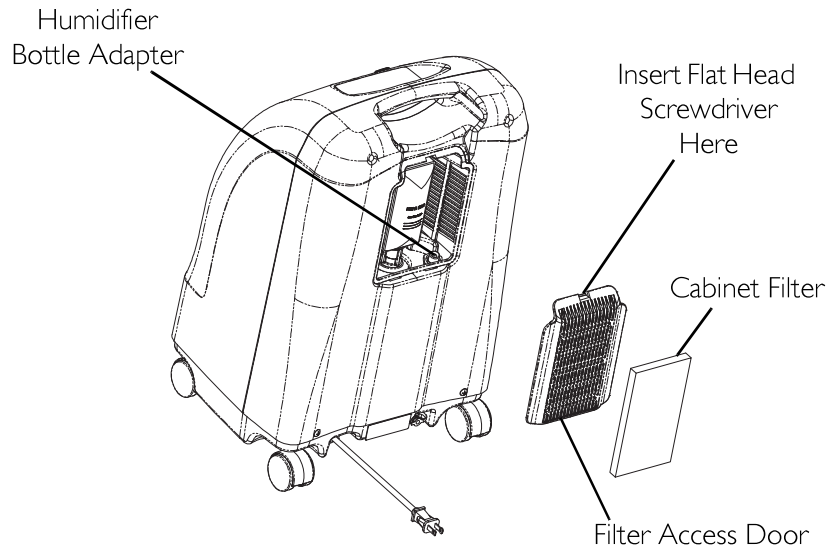
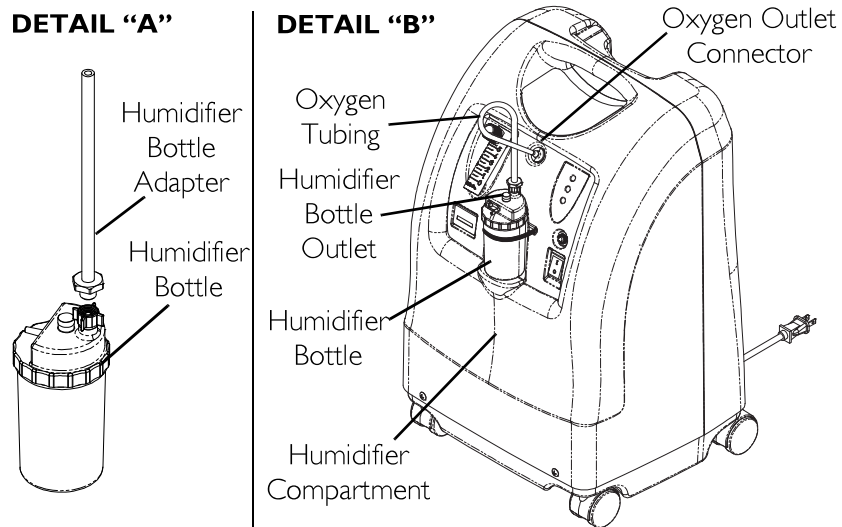

FIGURE 5.2 Humidifer Bottle Adapter
FIGURE 5.3 Humidifier Compartment
NOTE: For this procedure, refer to FIGURE 5.1, FIGURE 5.2 on page 17, FIGURE 5.3 on page 18.
3. Insert a flathead screwdriver in the plate groove on the top edge of the filter access door and gently pry the filter access door off (FIGURE 5.2).
4. Pull up and remove the humidifier bottle adapter (FIGURE 5.2).
5. Attach the humidifier bottle adapter to the humidifier bottle by turning the wing nut on the humidifier bottle counterclockwise until it is securely fastened. See Detail "A" in FIGURE 5.3.
6. Place the humidifier bottle/adapter assembly in the humidifier compartment on the concentrator. See Detail "B" in FIGURE 5.3.
7. Attach oxygen tubing from the humidifier bottle/adapter assembly to oxygen outlet connector on the concentrator. See Detail "B" in FIGURE 5.3.
8. Attach the cannula/patient supply tubing to the humidifier bottle outlet. See Detail "B" in FIGURE 5.3.